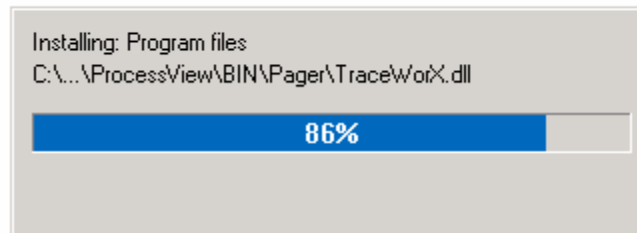

Figure 1.9. Setup Status Window
12. The **Setup Status** window appears. While the system files are being automatically copied, the percentage of the files already copied appears in the window's progress bar, as shown in **Figure 1.9**.